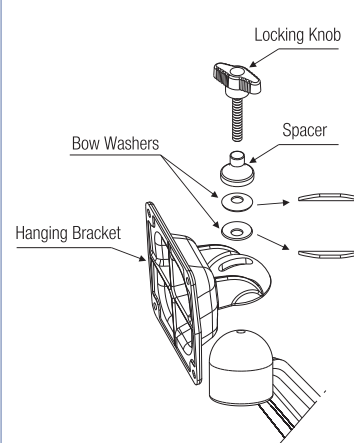

Fig. 3
4. Assemble the other parts as shown in Fig. 3.